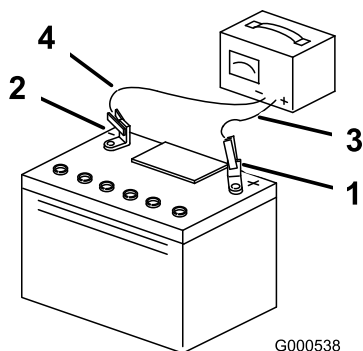

Figure 38
3. When the battery is fully charged, unplug the charger from the electrical outlet, then disconnect the charger leads from the battery posts (Figure 38).